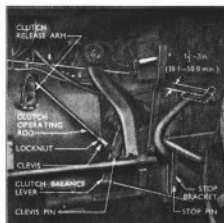

Fig. 22 Clutch Pedal Adjustment
3. If a double clutch is fitted ensure that the stop pin (see Fig. 22) is removed from the stop bracket, start the engine, engage the P.T.O. and check that the P.T.O. ceases to rotate when the clutch pedal is fully depressed. Shorten the effective length of the operating rod if it fails to do so.